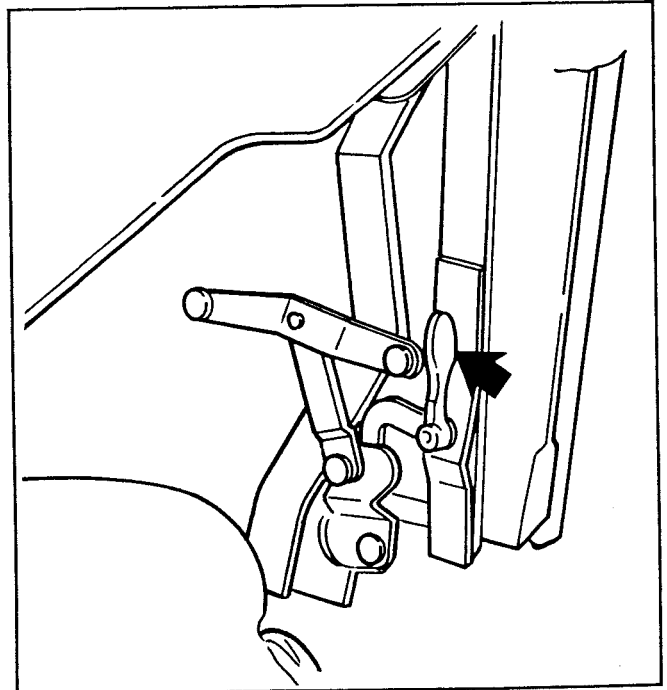

Figure 22. Pull Release Lever
7. Pull the red detent release lever near the main pivot bracket (Fig. 22).